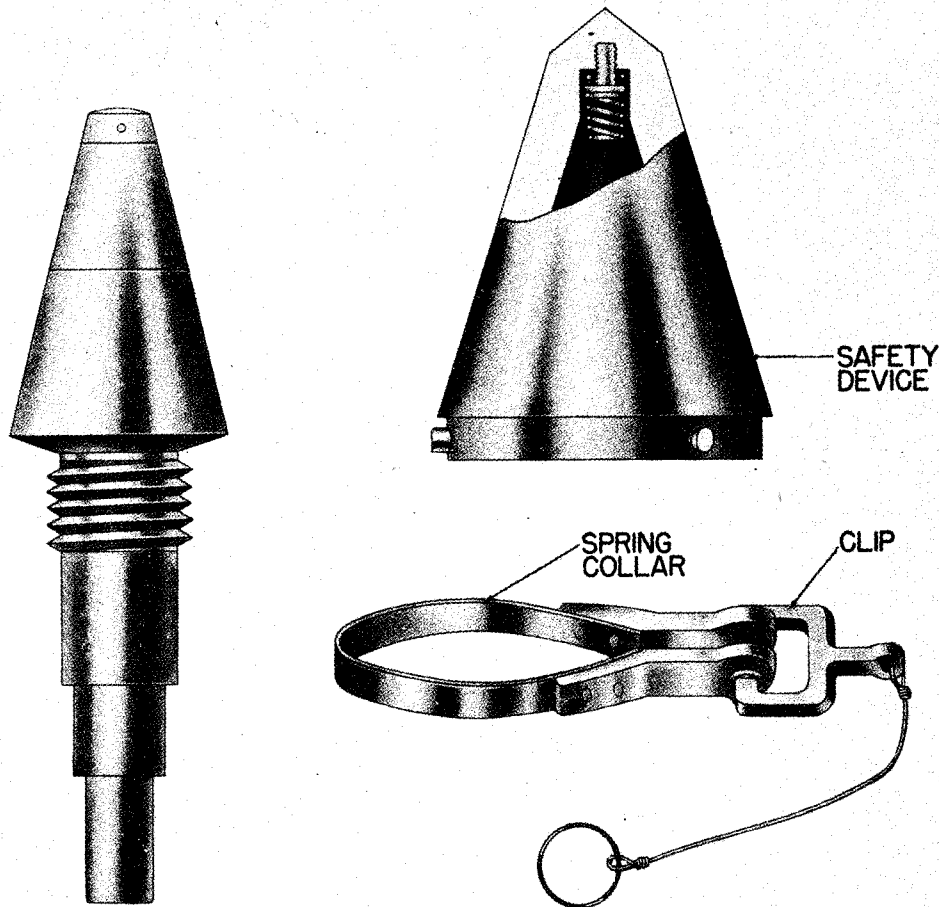

Figure 266 - Nose Impact Fuze R.S.A. Model 1930
**3. Safety device for use with the R. S. A. Fuze 30/45, Model 1930:** This is shown in figure 266. It consists of a single piece of bronzed steel in the shape of a hood. Inside of the apex of the hood is a spring which holds the head of the fuze away from the hood, and assists in the removal of the hood after the bomb is released. The hood is held in the head of the fuze by three spring-loaded pins, which pass through the lower portion of the wall of the hood, and are held in position by a spring collar. When the collar is closed by the clip, the pins are pressed into a groove on an adapter, which screws into the bomb. When the bomb is released, the clip is pulled away, the three pins are free to move, and, with the assistance of the spring, the safety hood falls away from the path of the bomb.